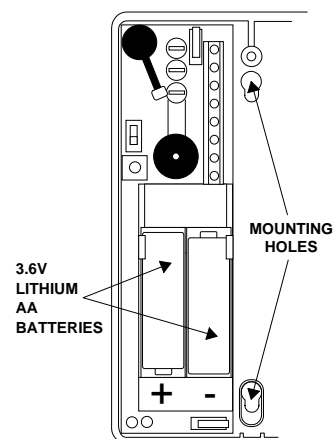

Figure 4. Mounting Hole Locations
- Place the sensor base at the desired location on the wall or ceiling and mark the narrow portion of the mounting holes (see Figure 4).